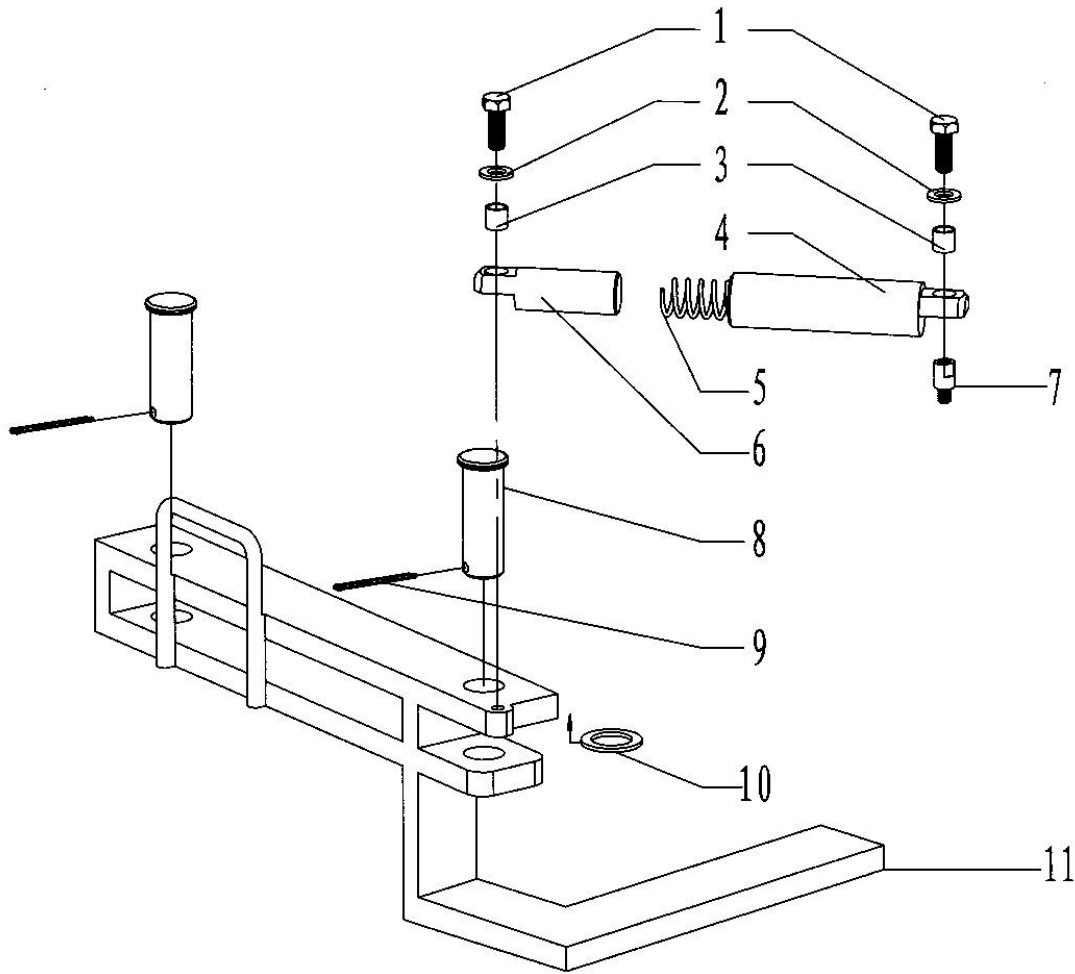

Fig. 24
6. Backup Tong Safety door assembly (Fig24, Table21)